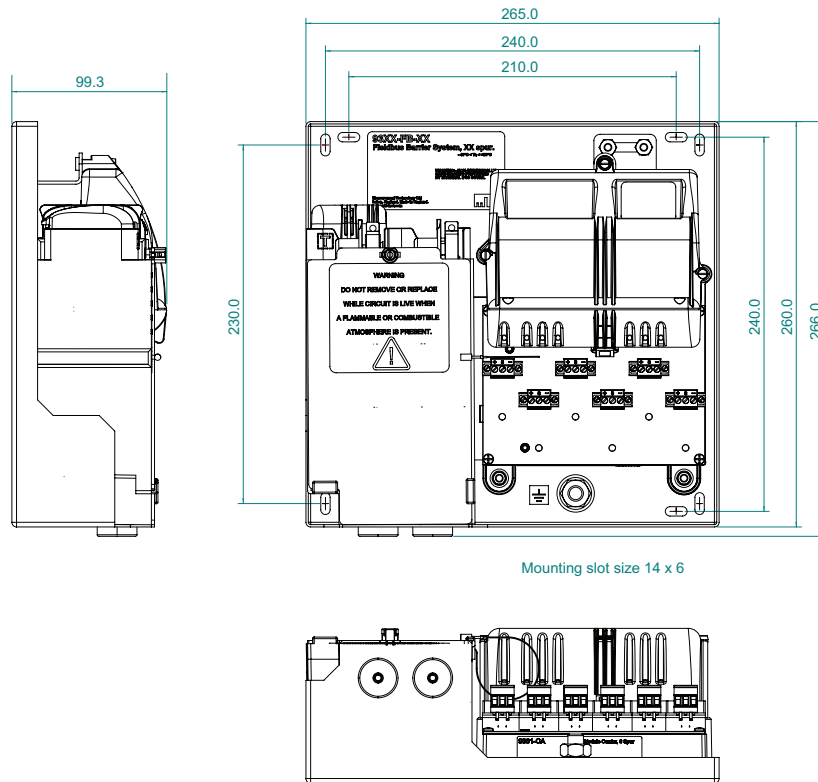

Figure 3.1 - Dimensions and mounting hole positions for the 6-way baseplate assembly (9387-FB-Px)
See Figures 3.1 and 3.2 for the dimensions, fixing locations and trunk cable entry/exit locations.
- d) Prepare holes in the mounting surface, on the centres shown in Figure 3.1 or 3.2, to accept suitable screws/bolts for mounting.
Either define hole positions based upon the dimensions given in Figures 3.1 and 3.2, or use the baseplate as a template. Prepare these holes in the mounting surface to a suitable size and depth for the fixings being used, then attach the baseplate assembly.